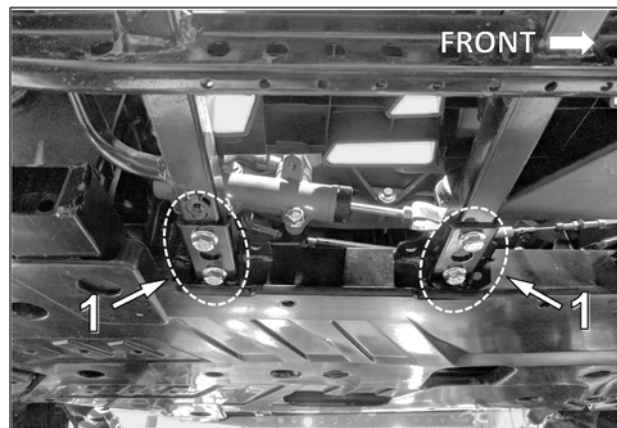

Fig. 3
4. Under the vehicle, remove the 4 footrest assembly bolts (1) that are closest to the rear. See Fig. 3